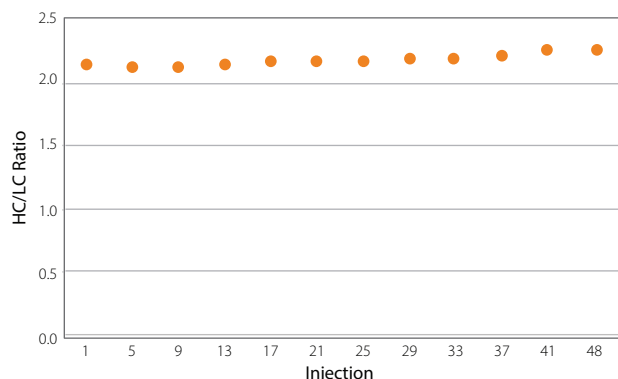

FIGURE 7. Heavy chain to light chain ratio of the reduced IgG across 48 injections with <2.0% RSDs for all peaks. Data from 12 injections shown.
A reduced IgG Standard was run across 48 injections, and 12 of the injections were analyzed with Compass for iCE to demonstrate application precision. The average percent light chain (LC), non-glycosylated heavy chain (NGHC), and glycosylated heavy chain (HC) was 31.5%, 8.0%, and 60.5% respectively with RSDs less than 2.5% for all peaks (Figure 6, Table 2). The HC/LC ratio was 2.2 with an RSD of 1.8% (Figure 7, Table 2). Data quality stayed